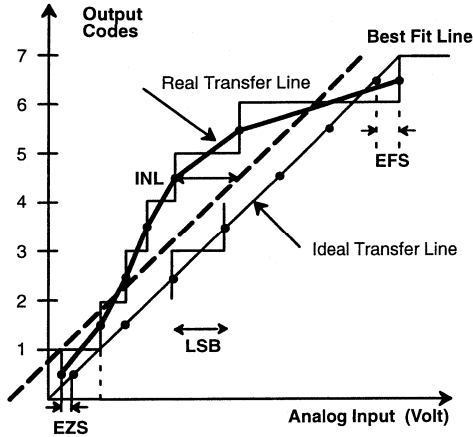

Figure 7. INL Error Calculation
- ² Tester measures code transition voltages by dithering the voltage of the analog input (V_{IN}). The difference between the measured code width and the ideal value (V_{REF}/1024) is the DNL error (see Figure 5). The INL error is the maximum distance (in LSBs) from the best fit line to any transition voltage (See Figure 7).
Figure 7. gives a visual definition of the INL error. The chart shows a 3 bit converter transfer curve with greatly exaggerated DNL errors to show the deviation of the real transfer curve from the ideal one.